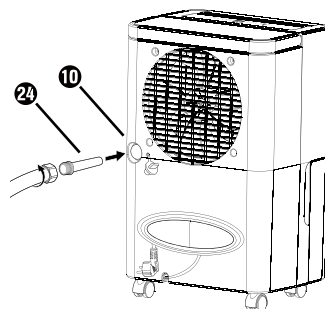

Fig. 5
- ◆ When using the EU garden hose adapter ②④, screw a garden hose onto the EU garden hose adapter ②④ (see figure 5).